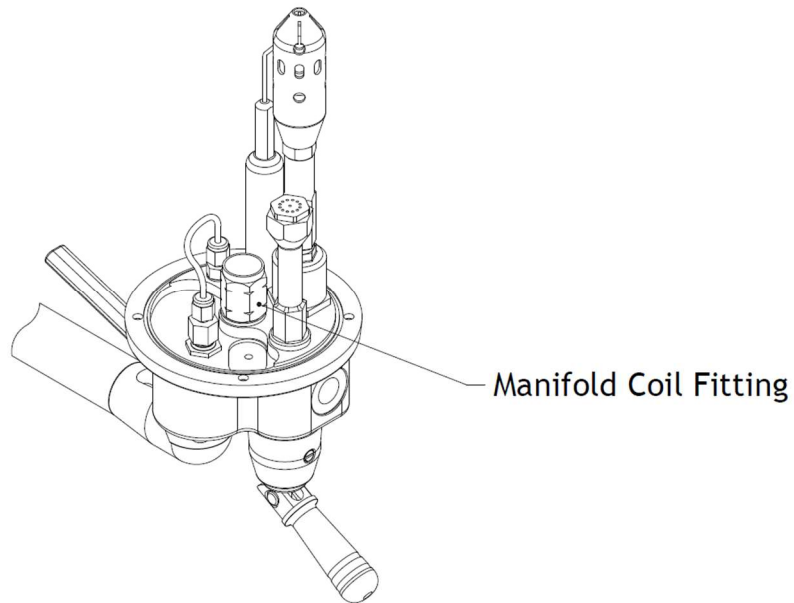

Fig. 1: Manifold Assembly
3. Unscrew the existing Manifold Coil Fitting using a 22mm socket, see figure 1. (The Burner Can have been removed for clarity).